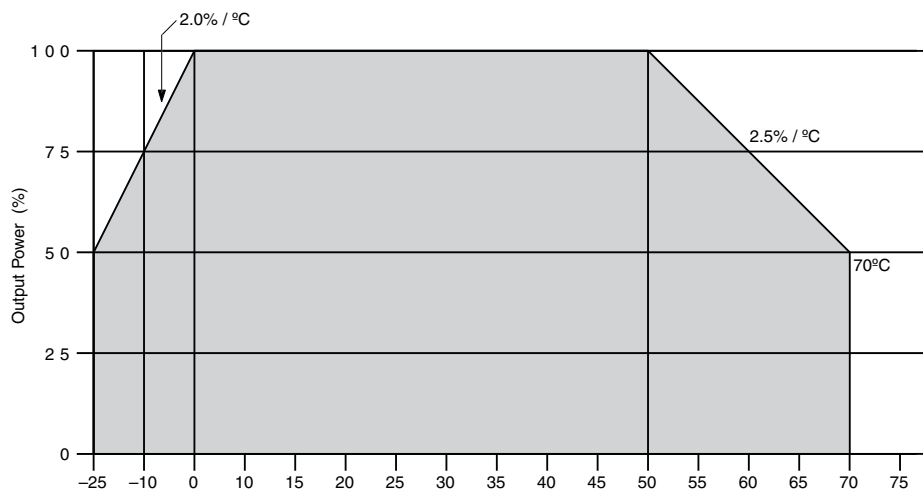

Figure 3. Temperature Derating
Operating Temperature	0 to +50°C @ full rated power; -25 to +70°C @ 50% rated power (see Figure 3)
Cooling	Free air convection with derating (see Figure 3 and Technical Notes)
- Temperature Derating (See Figure 3):** All DMS-PS-CM supplies are specified to operate at their full rated power over the temp range of 0°C to +50°C in still air (convection cooling) without any thermal derating. For operation over +50°C in still air, derate the output power linearly by 2.5% per °C down to 50% rated power at +70°C. To operate the units at full rated power between +50°C and +70°C, a minimum forced-airflow of 100 LFM is required. For operation below 0°C, derate the output power linearly by 2.0% per °C down to 50% rated power at -25°C.